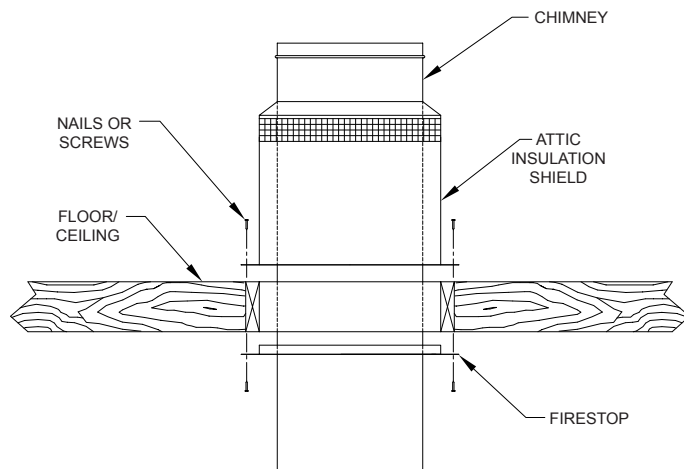

FIG. 8
- Secure the Attic Insulation Shield to the top of the framed opening using nails or screws. See FIG. 8.